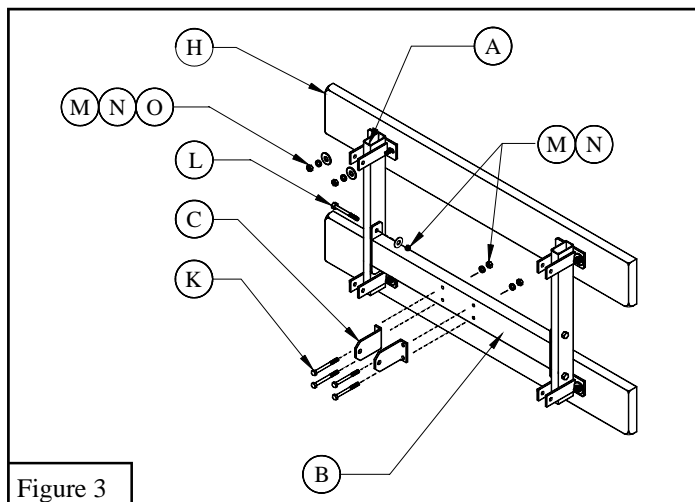

Figure 3
4. Install one *Crank Mount Strut* (B) to the two *Wall Mount Rails* (A) with $3/8"$ X $2\ 1/2"$ *Hex Bolts* (L), $3/8"$ *Lock Washers* (N) and $3/8"$ *Hex Nuts* (M). See Figure 3.
5. Attach two *Crank Mount Brackets* (C) to the *Crank Mount Strut* (B) using the $3/8"$ X $3"$ *Hex Bolts* (K), $3/8"$ *Lock Washers* (N) and $3/8"$ *Hex Nuts* (M). See Figure 3.
6. Mount the frame assembly from instructions #4 and #5 above to the *Wall Boards* (H). Position over previously installed *Flange Elevator Bolts* (I), use $3/8"$ *Flat Washers* (O), $3/8"$ *Lock Washers* (N) and $3/8"$ *Hex Nuts* (M). Make sure that the assembly is mounted with the *Crank Mount Strut* (B) closest to the ground. See Figure 3.